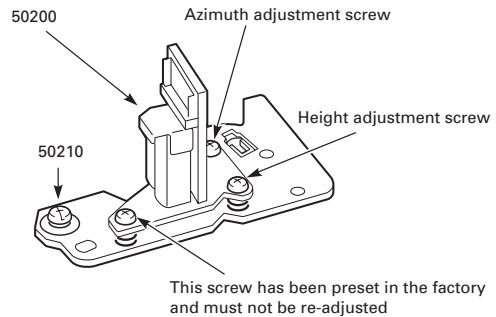

Fig. 9.5
9.4 Adjusting the A/C Head (Fig. 9.5)